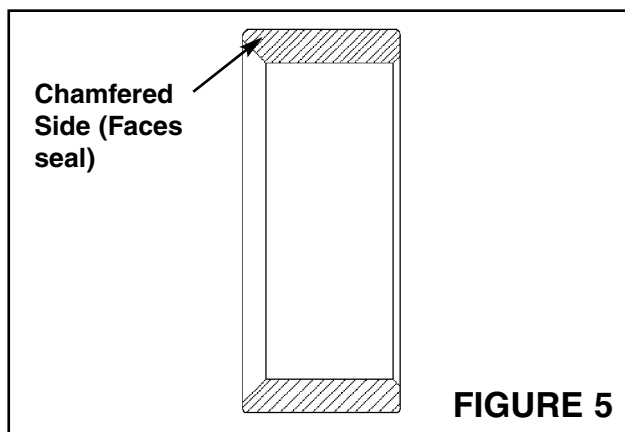

FIGURE 5
- Install Main Drive Gear Seal Spacer JIMS No. 8424 ** (supplied) over the Main Drive Gear on the right side of the transmission with the chamfered side toward the quad seal. Be sure not to roll the lip of the seal over during installation. (If not already installed by manufacturer.) Refer to **Figures 5 & 6**.
- Install Mainshaft Seal Spacer JIMS No. 8437, ** (supplied) over Mainshaft Bearing Boss on left side of Trans, with the chamfered side to the inside. Be sure not to roll the lip of the seal over during installation. (If not already installed by manufacturer.) Refer to **Figures 5 & 6**.